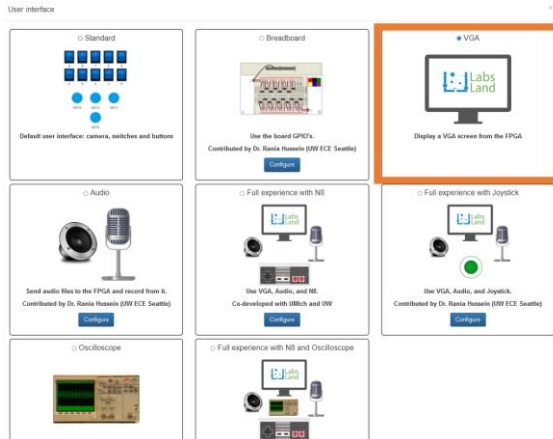

Figure 5: VGA interface option on LabsLand.
- a) On LabsLand, choose the "VGA" option for the interface (shown in Figure 5).